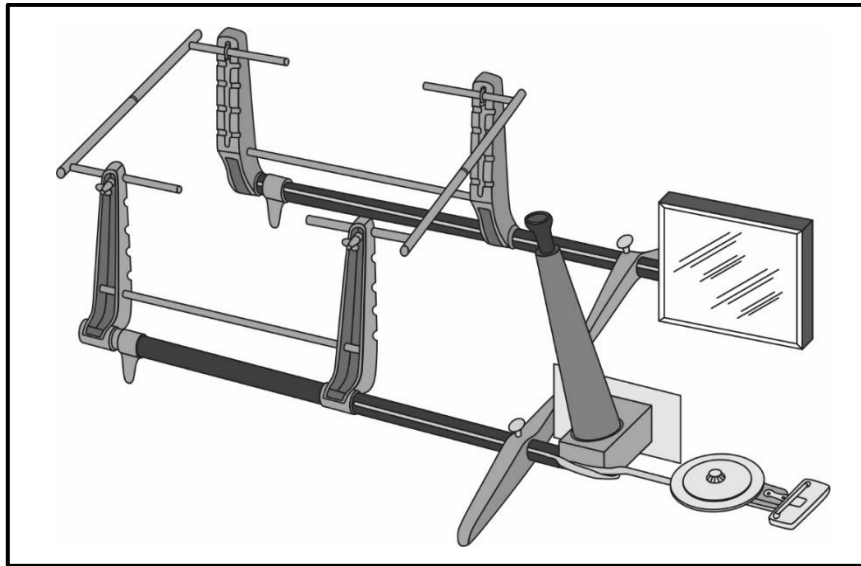

FIGURE 5.6
- 5.6 FIGURE 5.6 below shows wheel alignment equipment. Answer the questions that follow.